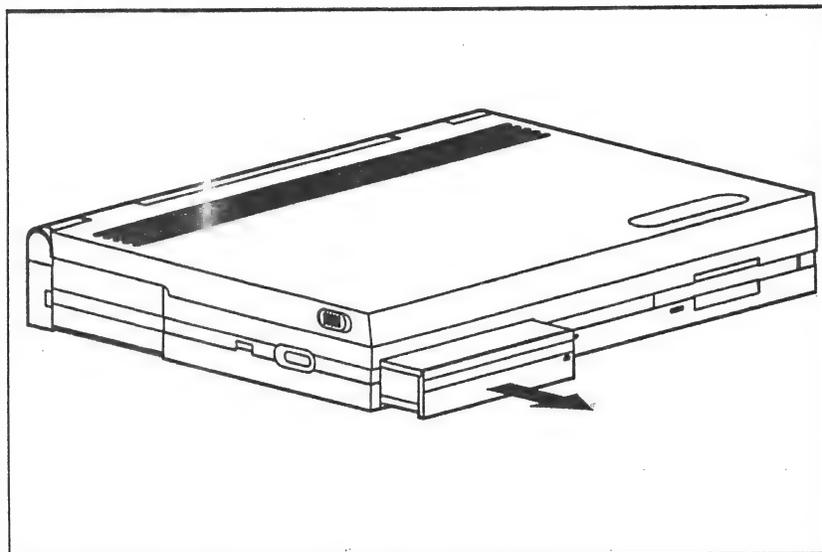

Figure 2-5. Removing the Battery Pack
2. Remove the battery pack (Figure 2-5).